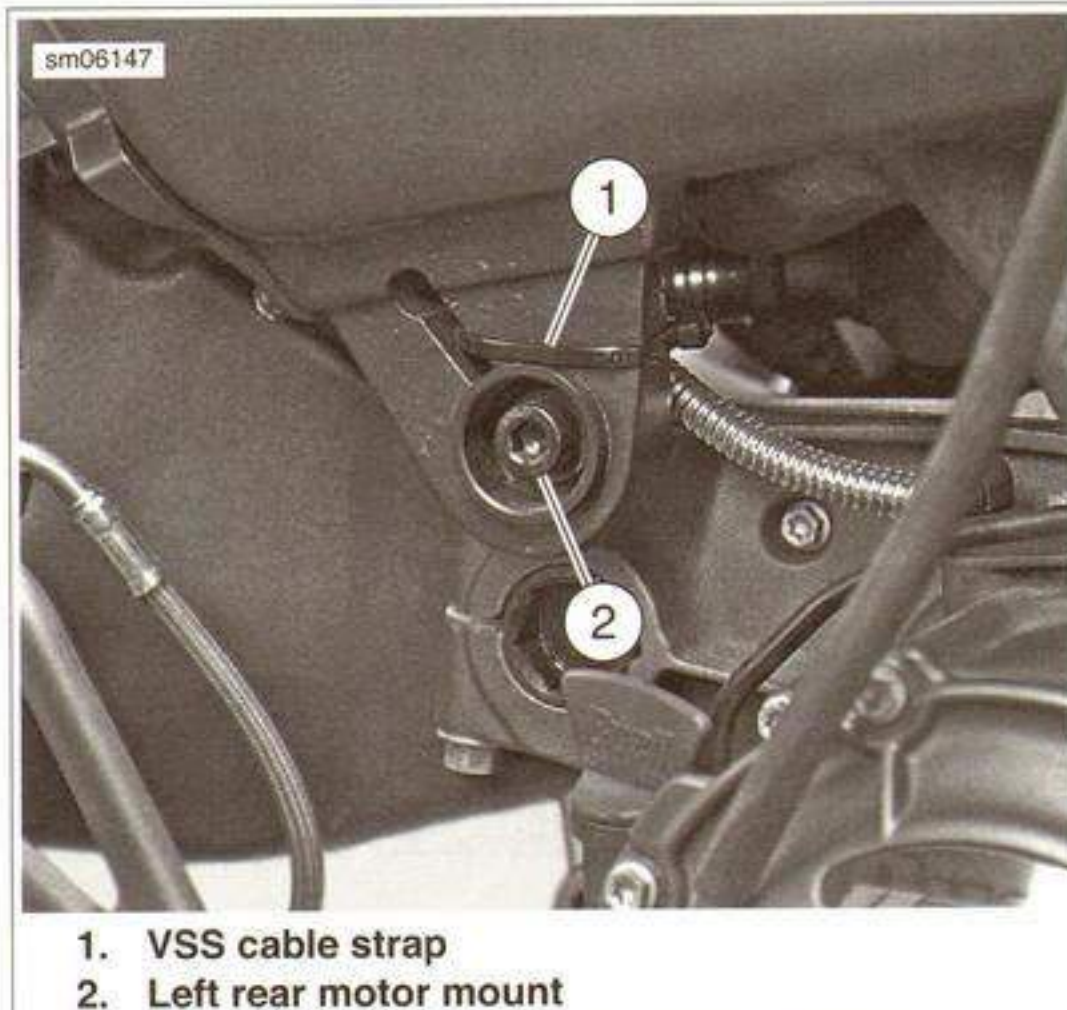

Figure 3-40. Right Rear Motor Mount
5. See Figure 3-40. Loosen right side pinch screw on rear motor mounts. Remove fasteners from each side.